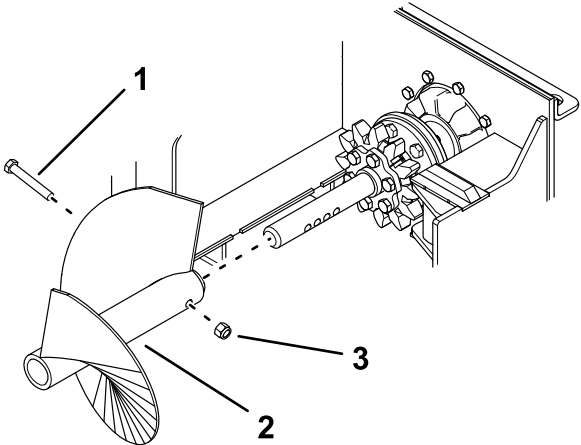

Figure 4
1. Remove the bolt and locknut securing the spoils auger and remove the auger (Figure 4).